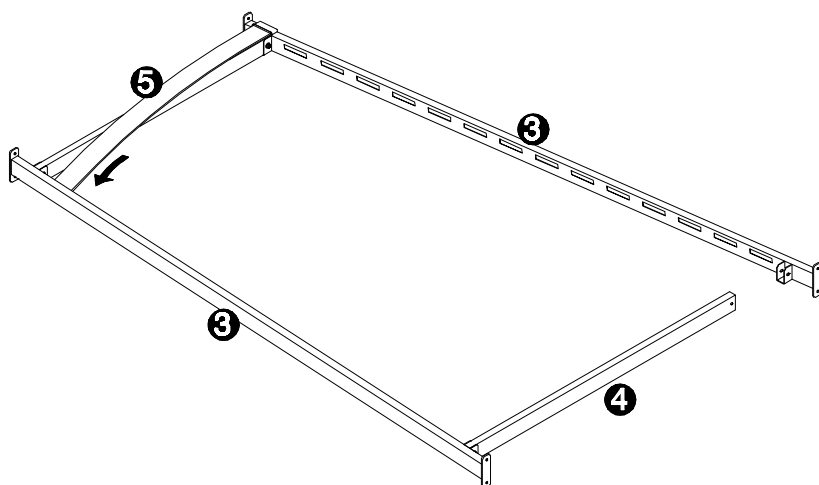

Fig.1
Ensuring that the Wooden Slats (5) are facing curved side up, place a Cap End (F) onto each end of the Wooden Slats (5) as shown in Fig.1. Now push each end into the slots along the Side Rails (3) as detailed in Fig.2. Repeat for all slats.